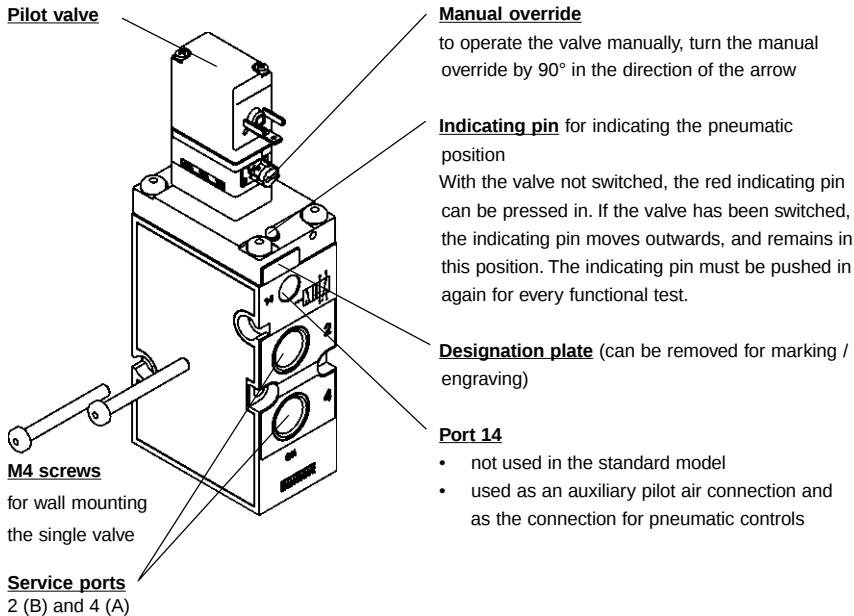

Figure 3: Mounting single valve
4.5 Mounting single valves (Fig. 3)